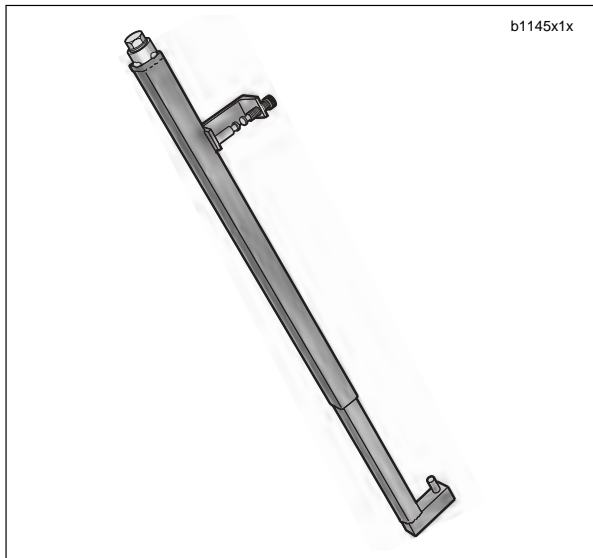

Figure 2-69. Fork Spring Compressing Tool (HD-45966)
- See Figure 2-69. Move the fork assembly from the holding tool and compress fork in the FORK SPRING COMPRESSION TOOL.
- Remove preload washer (4) and slider piston (5).
- See Figure 2-69. Expand fork and remove from FORK SPRING COMPRESSION TOOL.